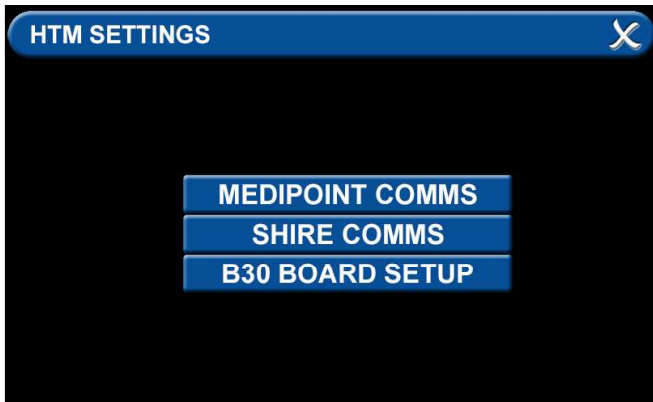

Figure 166: Shire Network Setup
- To transmit and receive signals, the HTM Settings tab has to be initialized (Figure 166).